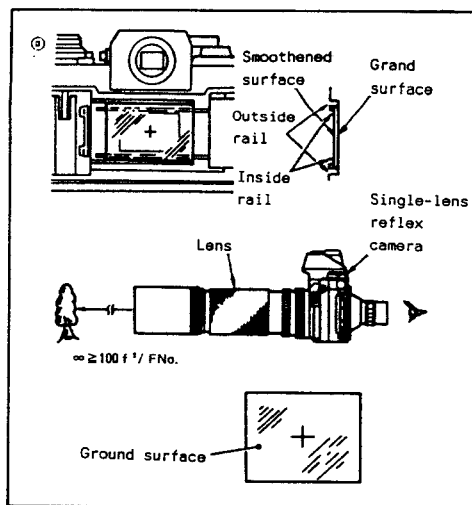

Fig. II-39
- (1) Open the aperture of single-reflex camera fully. Then, open the rear lid.
- (2) Secure the ground glass to the inside rail face by pressing it. At this step, the ground surface should face the lens side.
- (3) Shoot a scene at infinity. To check if it is in best focus, enlarge the image on the ground glass through the magnifier.
* Note: Distance for infinity: See Fig. II-39.
(4) After the above checking, remove the ground glass once and mark cross hairlines on it. Then, attach it to the camera again.